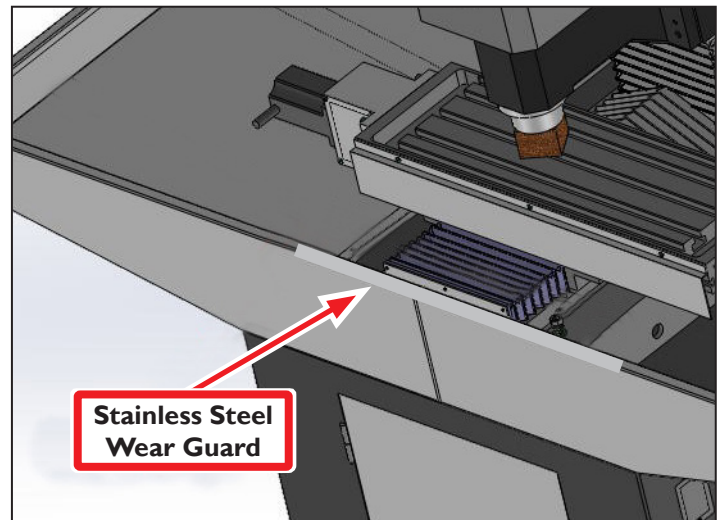

Figure 6
6. After chip pans are installed, use two *M6 x 10 mm Screws*, two *M6 Flat Washers*, and two *M6 Nuts* to attach *Stainless Steel Wear Guard* across front (see **Figure 6**).